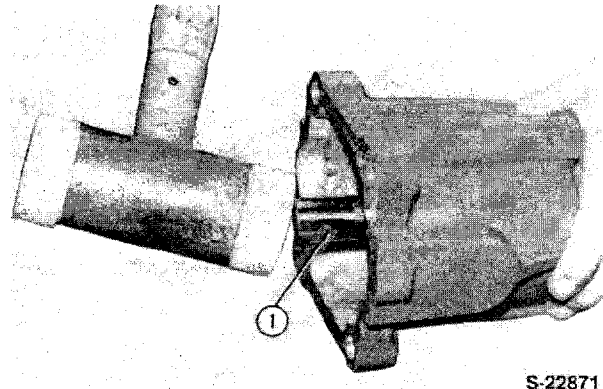

Figure 51
2. Using a soft hammer gently drive the shaft and bearing as an assembly out of the housing, Figure 51.